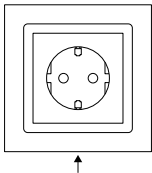

Figure 1
- 1 - To open Stark QM Socket EU, use a flat screwdriver and lever on the 2 tabs at the bottom (Figure 1).